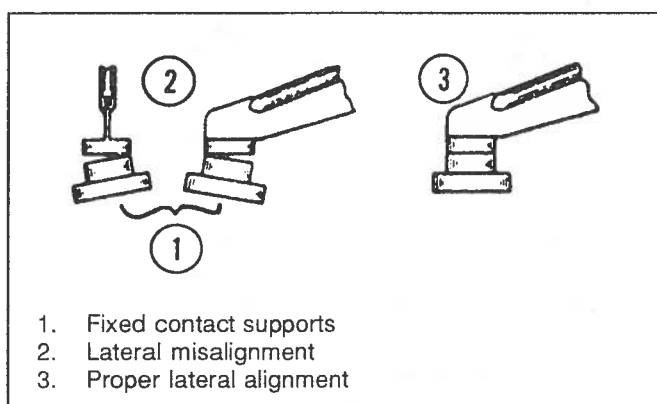

Figure 6-24. Contact-Point Alignment
7. Check the points for proper alignment (See Figure 6-24). If the points do not align properly, replace with another set of points, or bend the fixed contact supports. Never bend the breaker point.